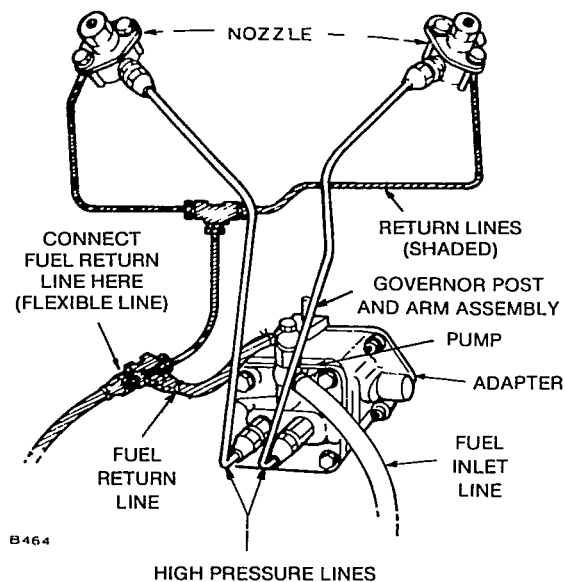

FIGURE 21a. FUEL LINES TO INJECTORS
The Bryce or Kiki fuel injection system (Figure 21a) is located near the center on the left side of the engine crankcase on DJE engines. The pump is mounted on an adapter casting. Two lobes of the cam shaft operate the pump plungers, one plunger and cam lobe for each cylinder. The fuel is pumped at high pressure by the plungers through the delivery valves to the injection nozzles.
2. Remove fuel inlet and return line, Figure 21a.